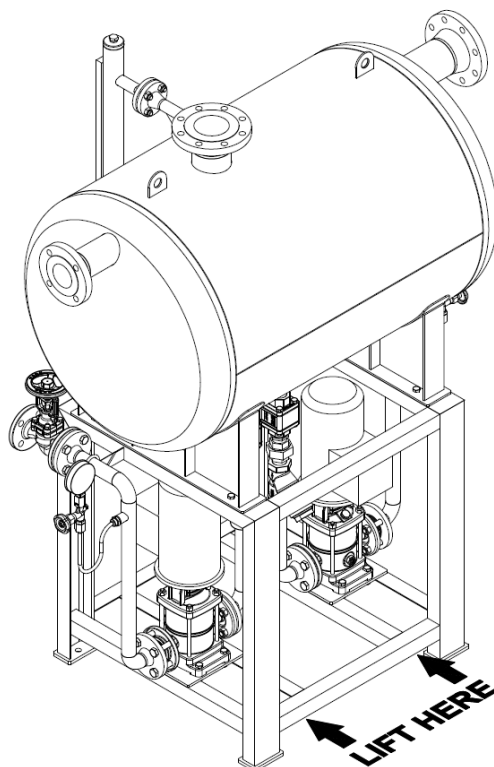

Fig. 4 – Example of fork positioning
- For lifting and transportation of the complete unit use a suitable forklift truck underneath the frame with the forks positioned according to the Figure 4.